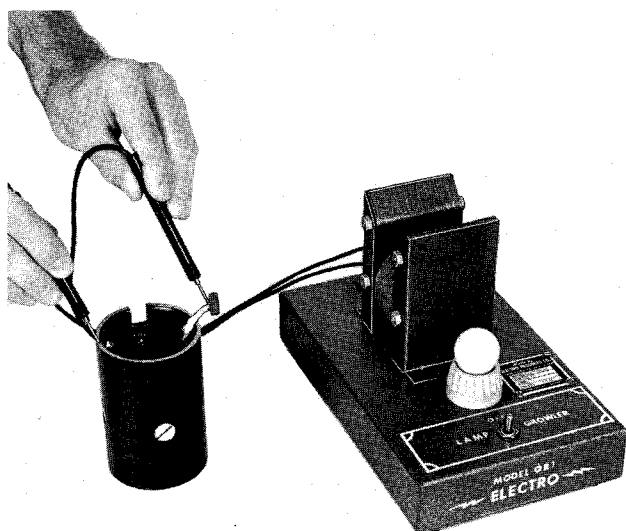

Figure 7-11. Checking Field Continuity
d. Using a test light, check field windings for continuity between field brush lead and frame of motor (ground). See Figure 7-11.